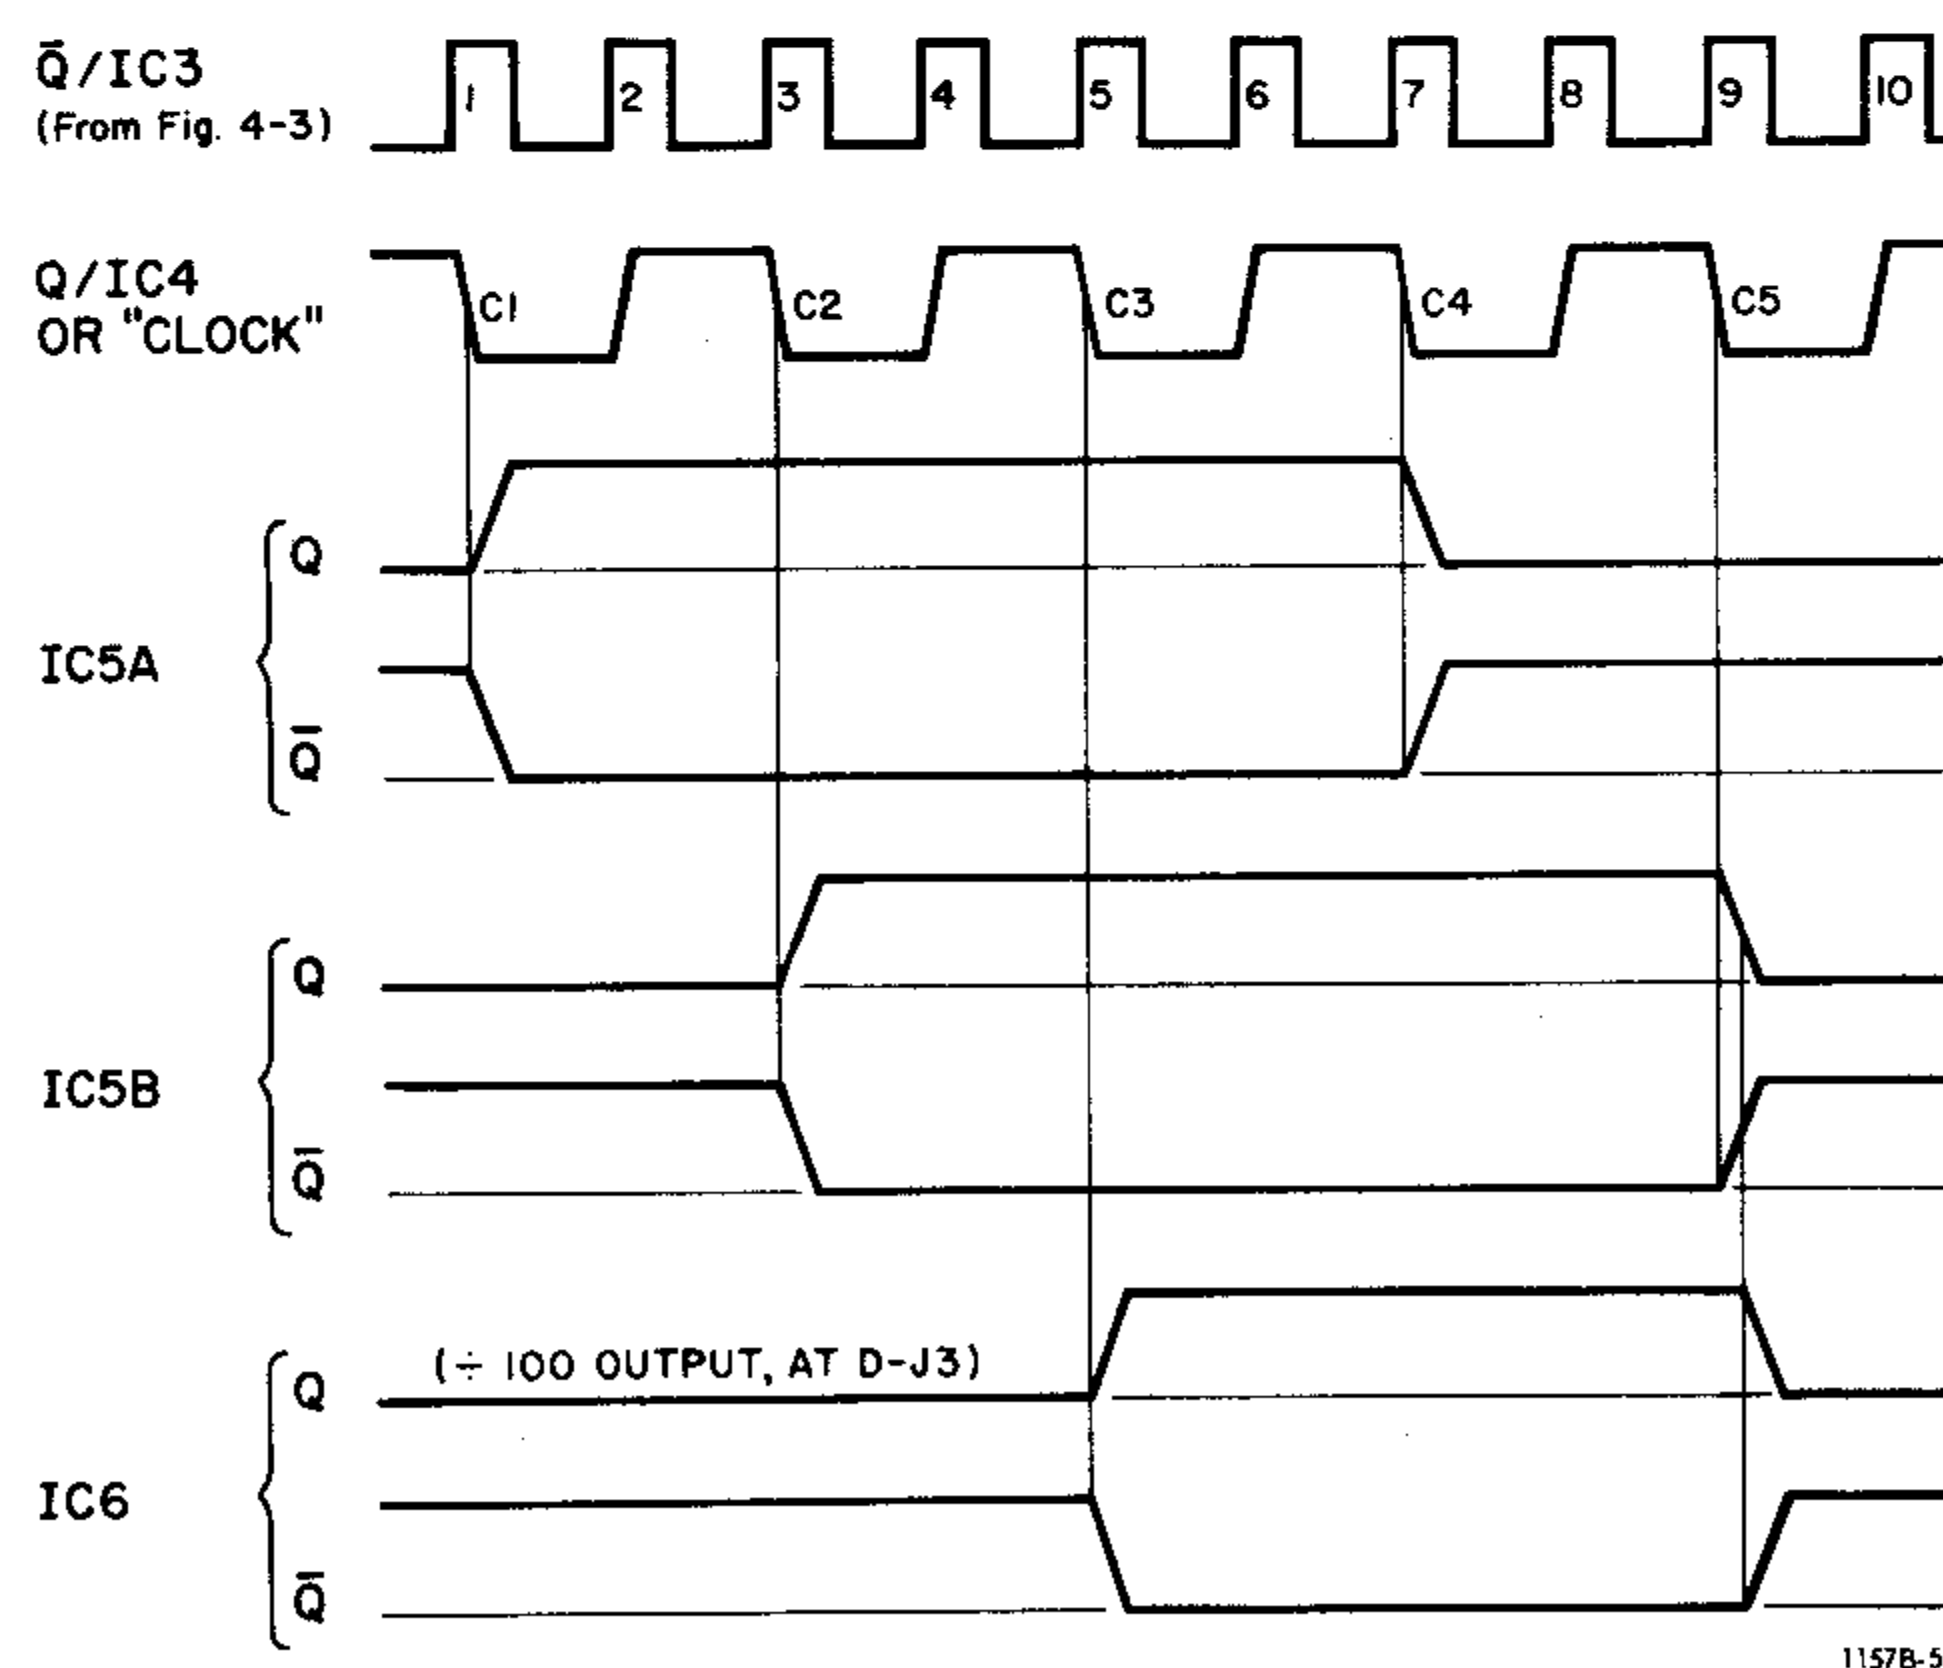

Figure 4-4. By-10 divider timing diagram.
4.3.6 By-10 Divider – D (Figures 4-4, 6-11).
The binary IC4 has the property that each + pulse applied simultaneously to inputs J and K reverses the state of its internal flip-flop. Its output Q/IC4 is a square wave at half the frequency of the $\div 10$ output (at D-J2). Difference amplifier D-Q3/D-Q4 acts as a "clock" driver for the following divider. (See Figure 4-4, first 2 waveforms.)
The timing sequence is shown in Figure 4-4. Start with a time when all 3 flip-flops are in the 0 state. The clock drive, from D-Q3 collector, is applied to all 3 flip-flops at their C terminals. (Abbrev. used: IC4, IC5 . . . for D-IC4, D-IC5 . . .)